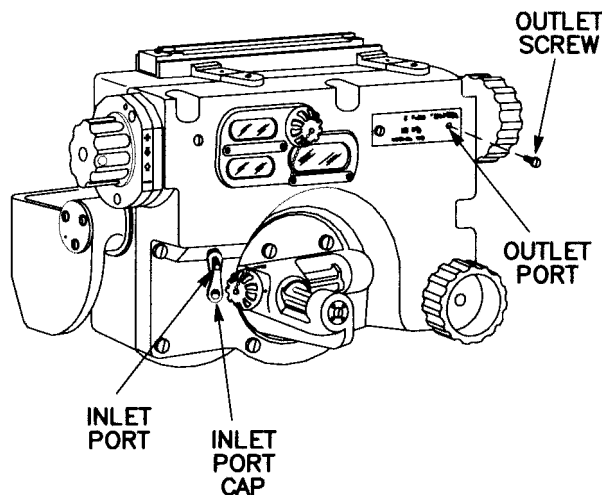
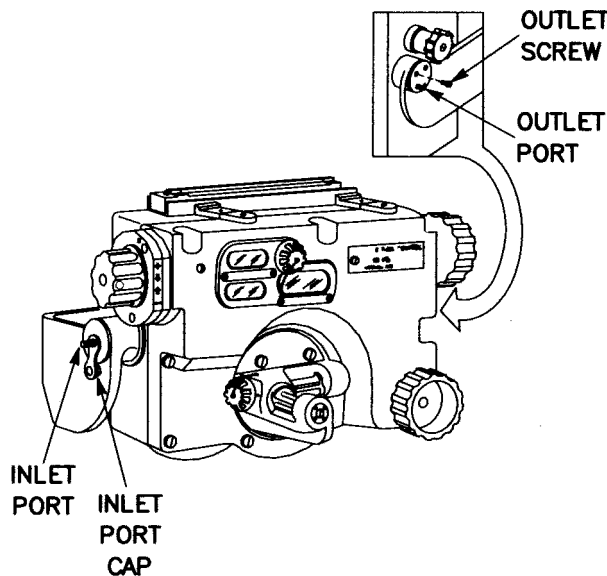

Figure 3-37 M15 Quadrant - Old Configuration
Figure 3-38 M15 Quadrant - New Configuration
c. Quadrant, M15 (figs. 3-37 and 3-38).
For old configuration units, refer to figure 3-37. New configuration units are illustrated in figure 3-38.